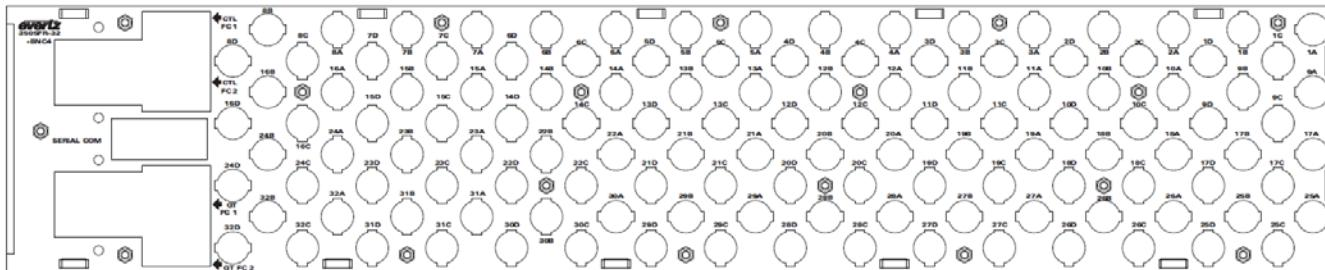

Figure 2-8: 3505FR-32-BNC Fixed Electrical Connections
**NOTE: Channels A and B on the front of the 3505FR frame correspond to channels A and B on the rear of the frame (Figure 2-8).**